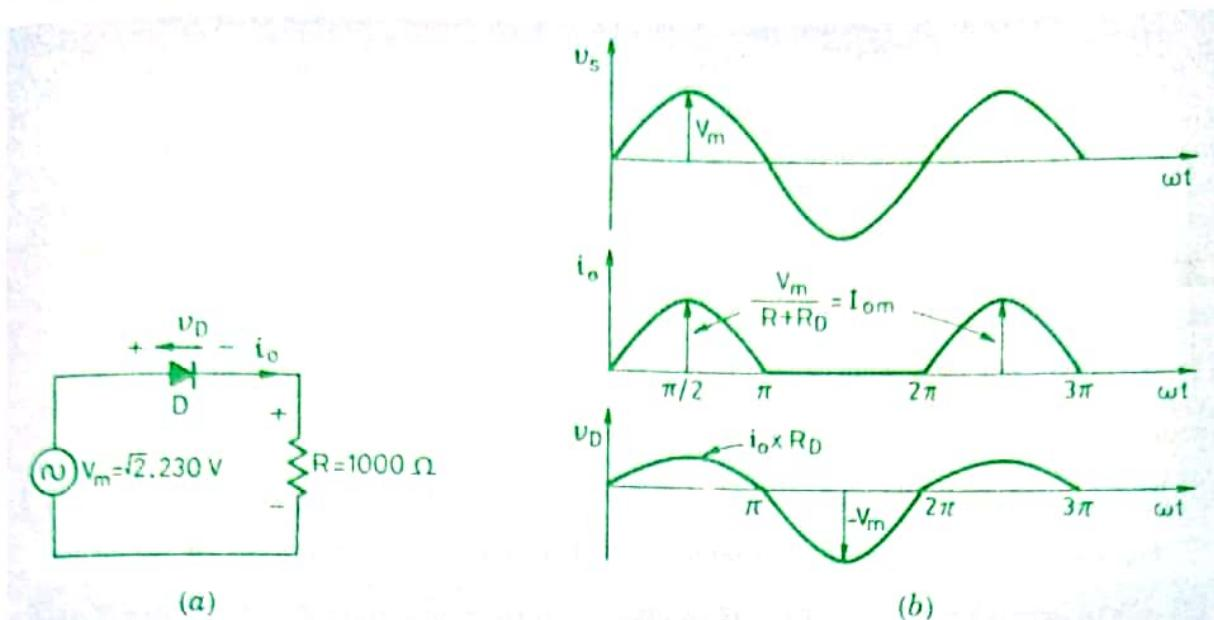

Fig. 3.24. Pertaining to Example 3.12 (a) circuit diagram and (b) waveforms.
**Solution.** A voltage of  $230 \text{ V}$  supplying power to  $1000 \Omega$ , through a single diode, is shown in Fig. 3.24 (a). Waveforms for the source voltage, load current  $i_0$  and diode voltage  $v_D$  are shown in Fig. 3.24 (b).